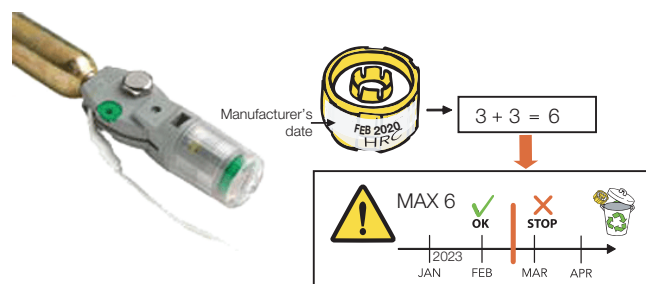

Fig 2. Halkey Roberts automatic inflation head
- b. For automatic models fitted with Halkey Roberts automatic inflation head with transparent cartridge and water sensing bobbin (Fig 2.). For Yellow Bobbin please note: